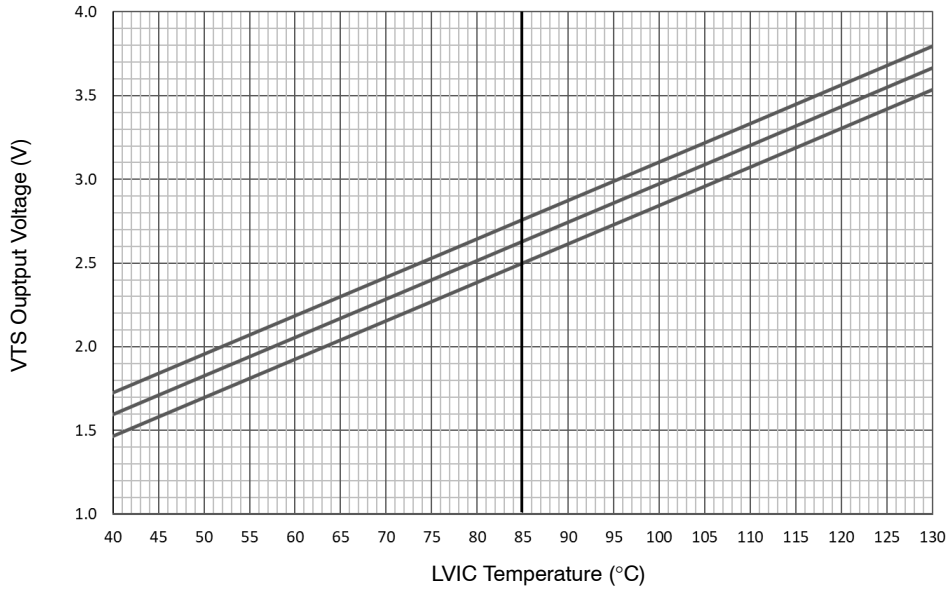
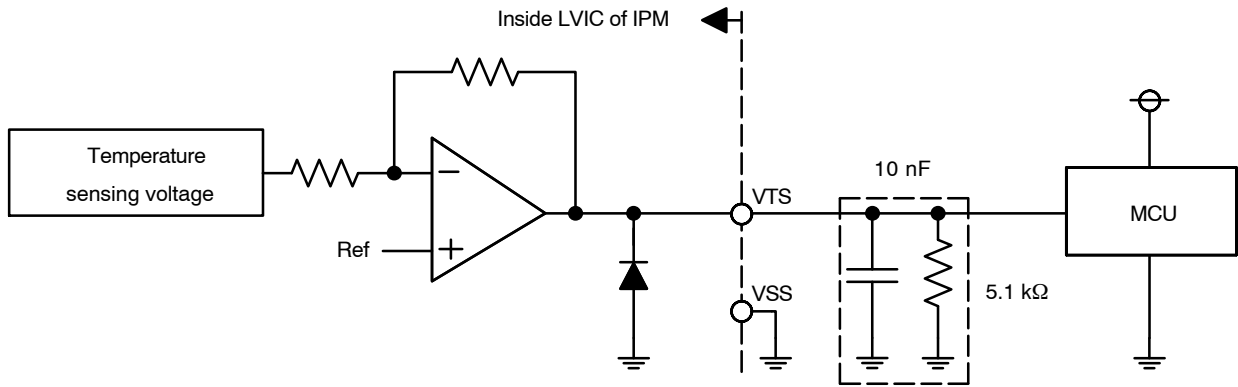

Figure 5. Temperature of LVIC versus VTS Characteristics
Figure 6. Internal Block Diagram and Interface Circuit of VTS
- TLVIC is the temperature of LVIC itself. VTS is only for sensing temperature of LVIC and cannot shutdown MOSFETs automatically. The relationship between VTS voltage output and LVIC temperature is described in Figure 5. It is recommended to add 5.1k Ω pull down resistor between VTS and VSS (Signal Ground) as described in Figure 6 for linear output characteristics at low temperature. To reduce noise, 10 nF cap is recommended as well. Refer to the application note for usage of VTS.
To avoid malfunction, the wiring of each input should be as short as possible (less than 2–3 cm). Each capacitor should be mounted as close to the pins of the product as possible. VFO output is open–drain type. This signal line should be pulled up to the positive side of the MCU or control power supply with a resistor that makes IFO up to 1 mA. Please refer to Figure 6.